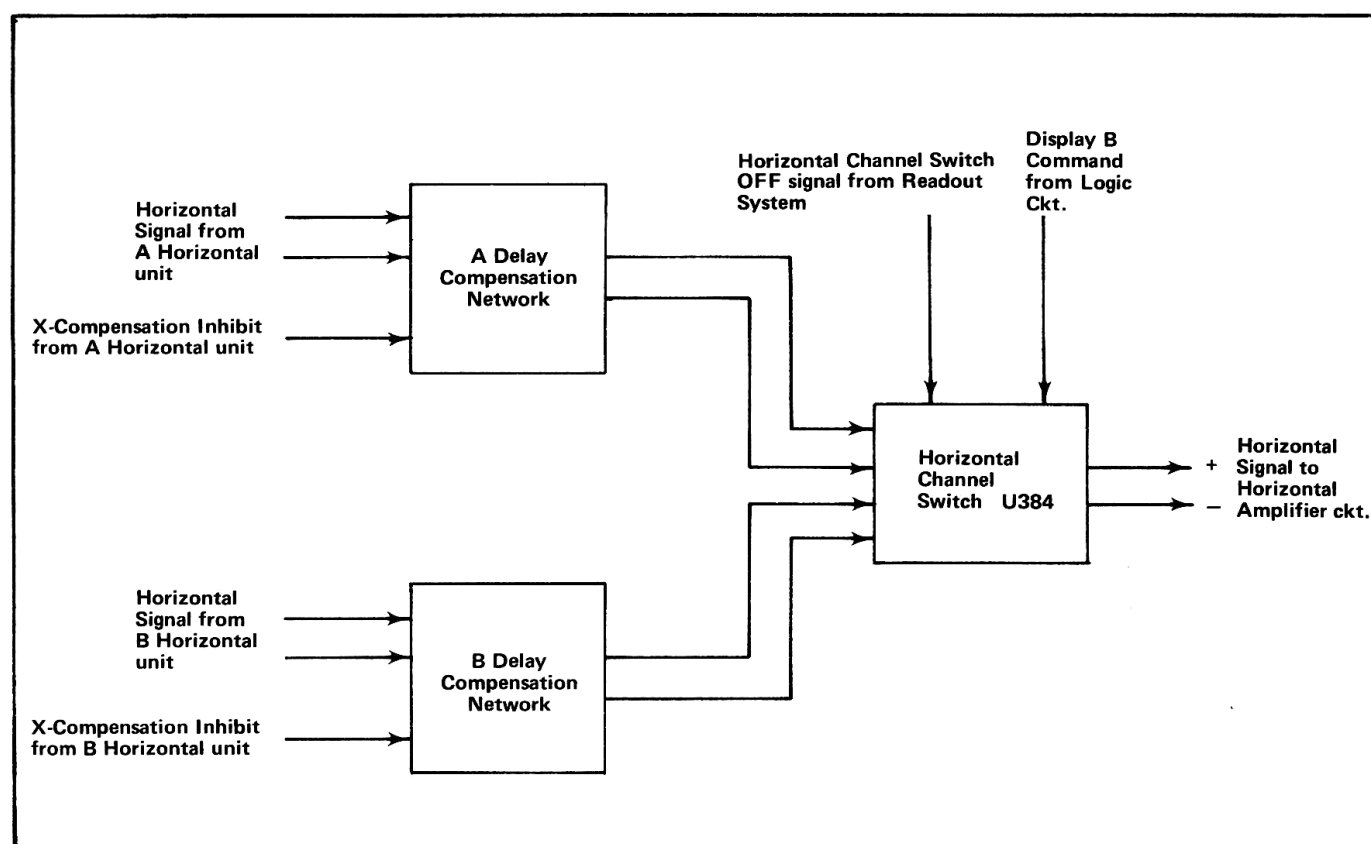

Fig. 3-27. Detailed block diagram of X-Y Delay Compensation network and Horizontal Interface.
The X-Y Delay Compensation network provides a delay for the horizontal (X) portion of an X-Y display to match the delay of the vertical (Y) signal due to the Delay Line. The Horizontal Interface portion of the circuit selects the horizontal deflection signal from the output of the A Horizontal and/or the B Horizontal plug-in unit. Fig. 3-27 shows a detailed block diagram of this circuit. A schematic of this circuit is shown on diagram 6 at the rear of this manual.